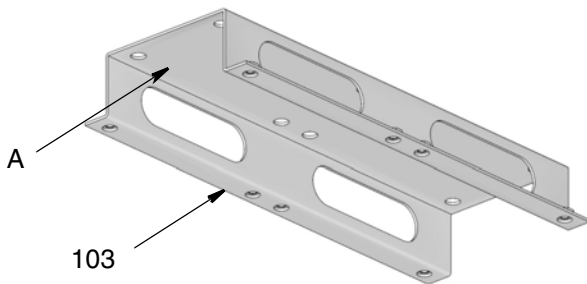

FIG. 3
5. Remove hose stop from hose end and save the parts to reinstall on the hose later (FIG. 3).
1. Use the mounting channel (103) to lay out the position of the mounting holes before you drill.
3. Secure mounting channel (103) to mounting surface (FIG. 3).
NOTE: The user must provide four bolts and four washers (A) (FIG. 3) that are strong enough to support the weight of the reel, cord and accessories. See Technical Data in the SD Series Cord and Light Reel instruction manual for the reel's weight without accessories.